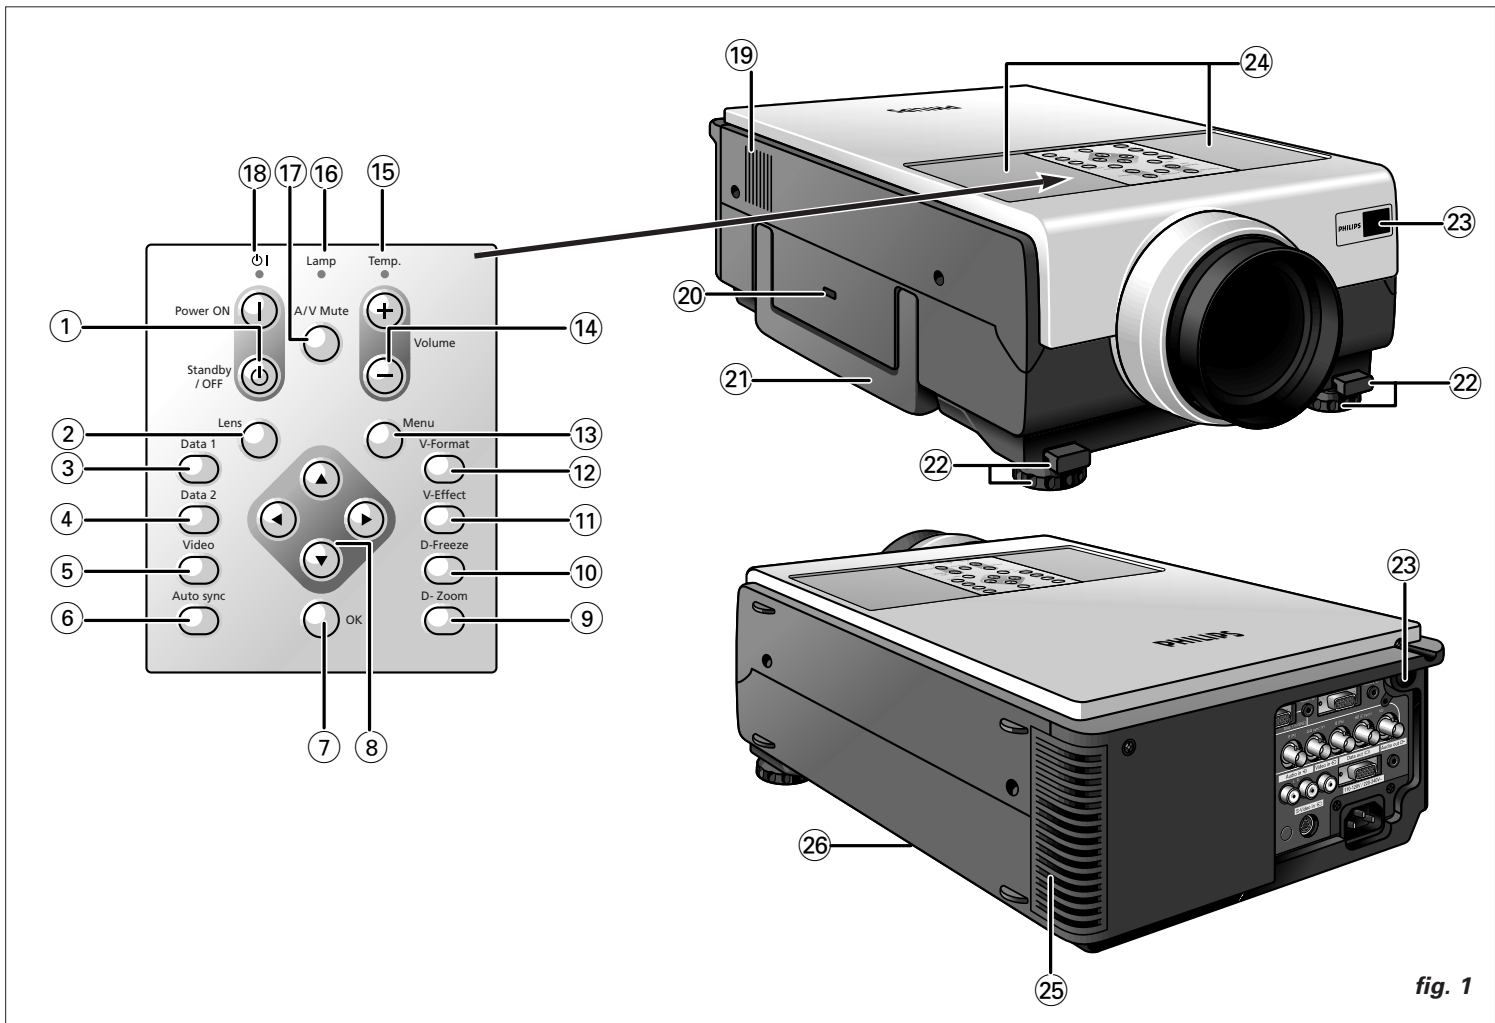

fig. 1
**CONTROLS****On projector (fig. 1)**
- ① **Power ON**